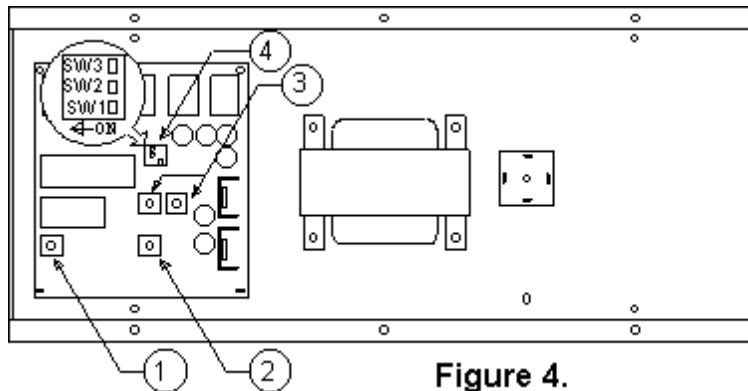

Figure 4.
The AGC-3 controller has a few internal adjustments. To gain access to these controls, **unplug the power cable**, and then remove the top of the AGC-3. If changes to the factory settings are necessary there are two potentiometers, two rotary switches and one three position switch (see Fig. 4). The volume control (1) is used to adjust the loudness of the recall horn relative to the voice. Turning the potentiometer clockwise will increase the loudness of the horn. The tone control (2) changes the pitch (frequency) of the electronic horn. Turning the potentiometer clockwise will increase the pitch. The two rotary switches (3) affect the timing of the voice commands. These switches have been factory set according to league standards and should not be changed without consulting with league officials. On the three position switch (4), SW1 and SW2 controls the mode of the microprocessor, and should not be changed without consulting the factory. SW3 controls the operation of the Gate outlet (item 4 in figure 1). When this switch is in the off position, the gate used must have up/down capability (no magnets used to hold and drop the gate). If magnets are used and the gate only has air assist when being raised, SW3 should be in the on position.
3. *Poor sound quality on the electronic horn:* If the sound of the horn is distorted, the front panel volume control or the internal horn volume control (item 1 in figure 4) may be set too high. If the sound of the electronic horn is too quiet or missing, the internal horn volume control may be set too low. If the tone of the horn is too low or too high, the internal horn tone control (item 2 in figure 4) may need adjustment.